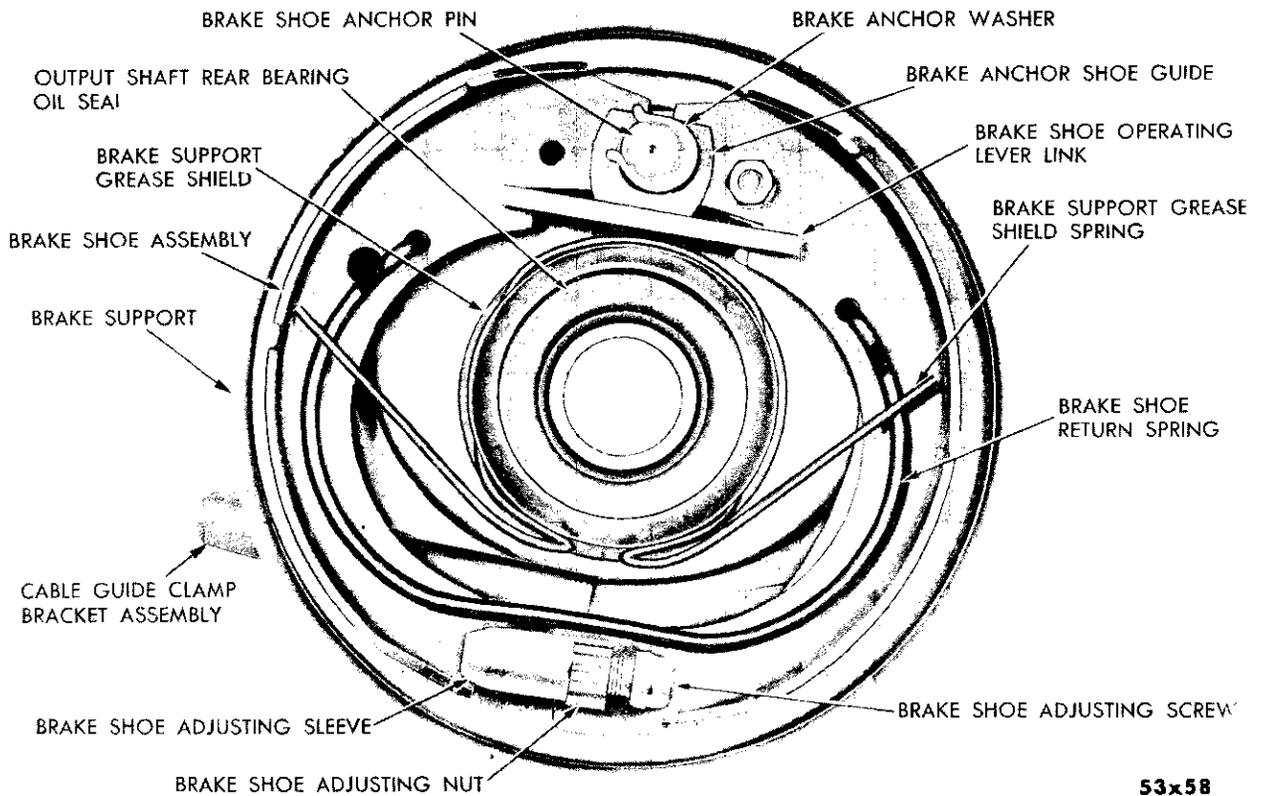
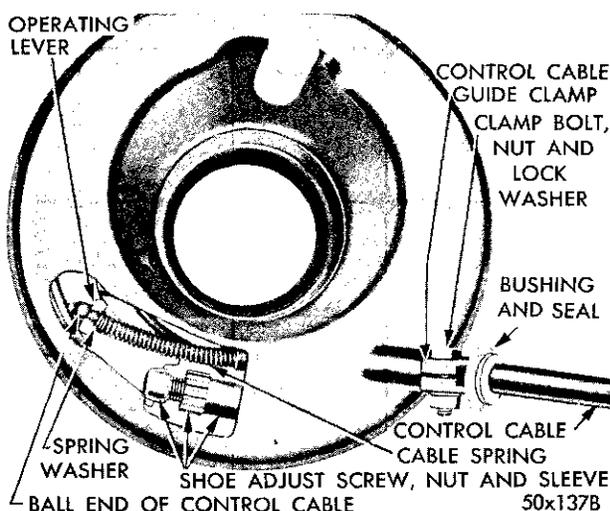
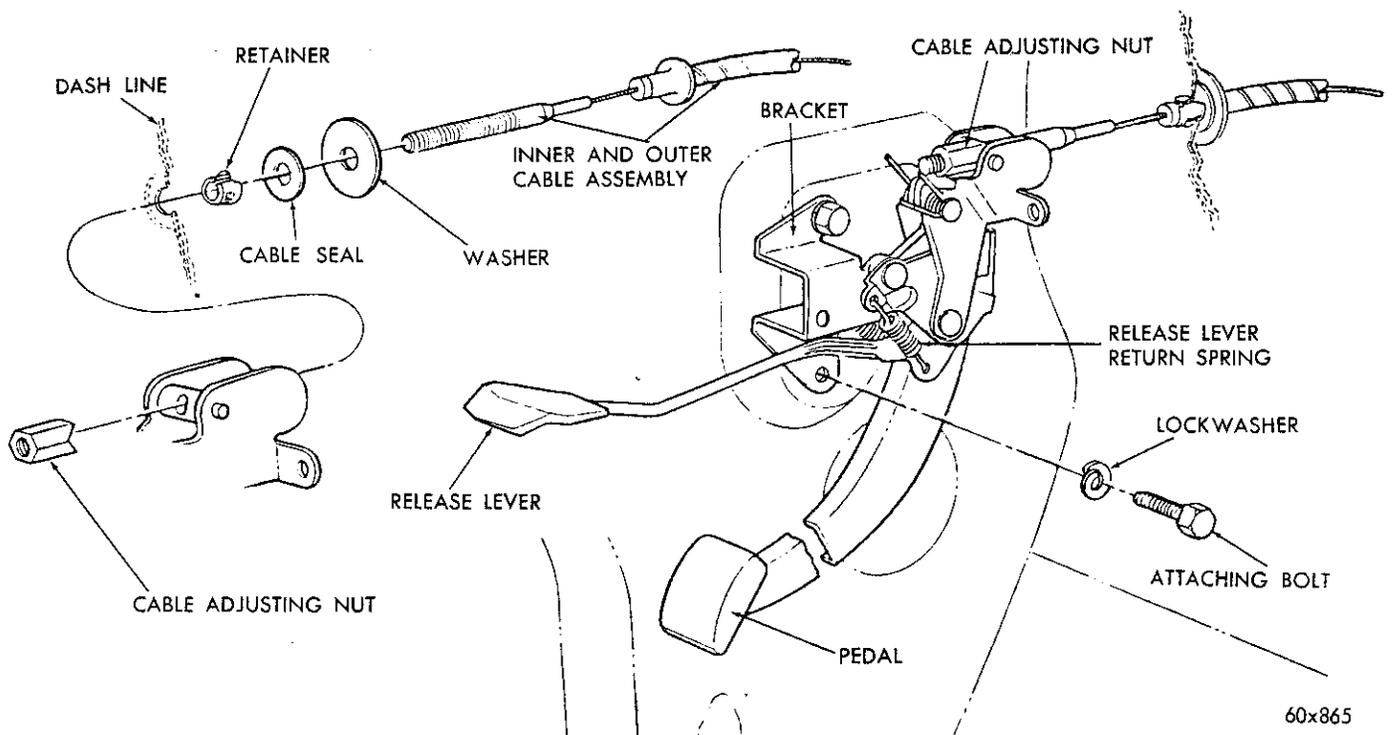

Fig. 1—Parking Brake (Internal Expanding Type) (Assembled View)
Fig. 3—Rear View of Parking Brake (Typical)
Fig. 4—Parking Brake and Cable Assembly (Exploded View)
5. PARKING BRAKE (Internal Expanding Type) (Figs. 1 and 2)
(1) Disconnect the propeller shaft at the transmission.
(2) Engage the holding Tool C-3281 with the companion flange, loosen and remove the companion flange nut, lockwasher and flatwasher.
(3) Install the puller Tool C-452 on the companion flange, removing flange and brake drum.
(4) Disengage the ball end of cable from the operating lever (Fig. 3).
(5) Separate the shoes at the bottom, allowing the brake shoe adjusting nut, screw and sleeve to drop out, then release the shoes.
(6) Pry the brake shoe return spring up and over the right brake shoe pin, then work the spring out of the assembly.
(7) Pry out the brake shoe retaining washer and remove outer guide.
(8) Slide each shoe out from under the guide spring. (As the shoes are removed, the operating lever strut will drop out of place.)
(9) Separate the operating lever from the right brake shoe by removing nut, lockwasher and bolt.
b. Assembly (Figure 1)
(1) Assemble the operating lever to the right brake shoe.
(2) Slide the right and left hand brake shoes under the guide spring and up on top of the inner anchor guide.
(3) Spread the shoes and insert the operating lever strut with the wide slot toward the operating lever, and stamped "top" facing up.
(4) Work the shoe return spring under the grease shield spring and secure ends in proper holes in webs of shoes, as shown in Figure 3.
(5) Spread the bottom of both shoes apart and install the brake shoe adjusting nut screw and sleeve.
NOTE: Install the adjusting nut, screw and sleeve in the proper position, as shown in Figure 1. If installed in the reverse position, adjustment would be difficult.
(1) Remove the adjusting screw cover plate.
(2) Turn the brake shoe adjusting nut, as shown in Figure 3, to decrease shoe-to-drum clearance until a slight drag is felt on the drum. Back off the adjusting nut at least one full notch (using spanner wrench Tool C-3723) or until brake drum is free. **Be sure the two raised shoulders on the adjusting nut are seated in the grooves on the adjusting sleeve.**
(3) Test the parking brake lever for travel. When properly adjusted, there should not be more than 3½ inches of parking brake pedal travel. **Never substitute a brake shoe adjustment by adjusting the cable.**
(4) Install the adjusting screw cover plate.
a. Removal (Fig. 4)
- (1) Release the parking brake.
- (2) Remove the cable adjusting nut from the end of the cable at the upper end of parking brake lever.
- (3) From the engine compartment, remove the upper end of cable from the dash panel.
- (4) Loosen the guide clamping bolt at the brake support, as shown in Figure 3, then remove the adjusting screw cover plate.
- (5) Pry the ball end of the cable up and out of the operating lever slot with a screwdriver.
- (6) Remove the control cable from the guide clamp bracket.
- (1) Slide the cable into the guide clamp bracket at the brake support. Insert Tool C-3015 between the spring retainer washer and the ball on the end of cable.
- (2) Hook the cable into the slot in the operating lever, with the lever between the ball and the washer, as shown in Figure 4. The cable must be installed so that the cable conduit is not pulled taut between any of the fastening points. To provide free cable operation, care must be used to prevent kinking of